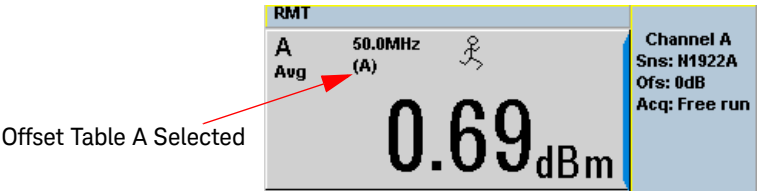

Figure 2-14 Frequency dependent offset indicator
- 4 Press **Done** again to display the measurement screen. Figure 2-14 shows which offset table is selected.